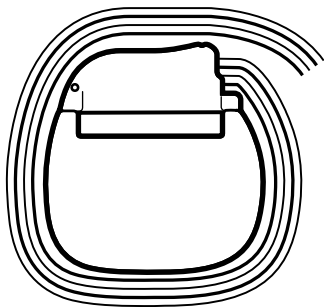

Figure 3. Wrap excess extensions or leads around the perimeter (or behind) the neurostimulator.
- Do not coil excess extensions or leads in front of the neurostimulator. Wrap excess extensions or leads around the perimeter (Figure 3) or behind the neurostimulator to help minimize potential damage during neurostimulator replacement surgery, help minimize potential kinking of the extension or lead, and minimize interference with telemetry and recharge operation.